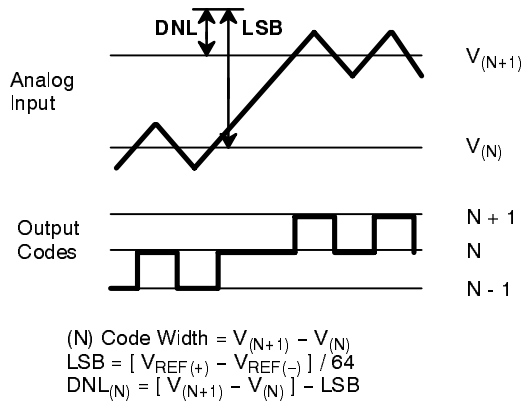

Figure 3. DNL Measurement
- 1 Tester measures code transitions by dithering the voltage of the analog input (VIN). The difference between the measured and the ideal code width (VREF/64) is the DNL error (Figure 3.). The INL error is the maximum distance (in LSBs) from the best fit line to any transition voltage (Figure 4.). Accuracy is a function of the sampling rate (FS).